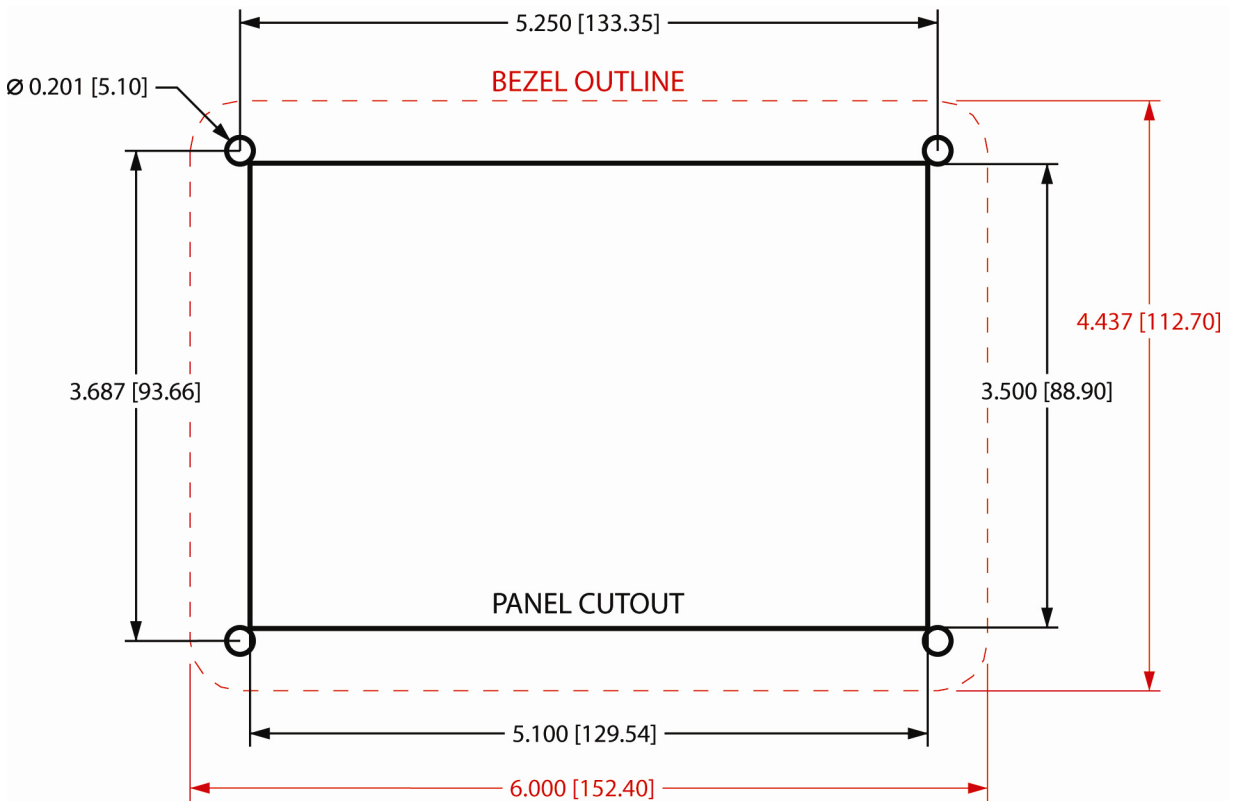

Figure 7. Installation dimensions in inches [millimeters].
The ES-Key Climate Control Display is designed to be mounted within a panel cut-out (Figure 7) with four (4) #10 screws and nuts.